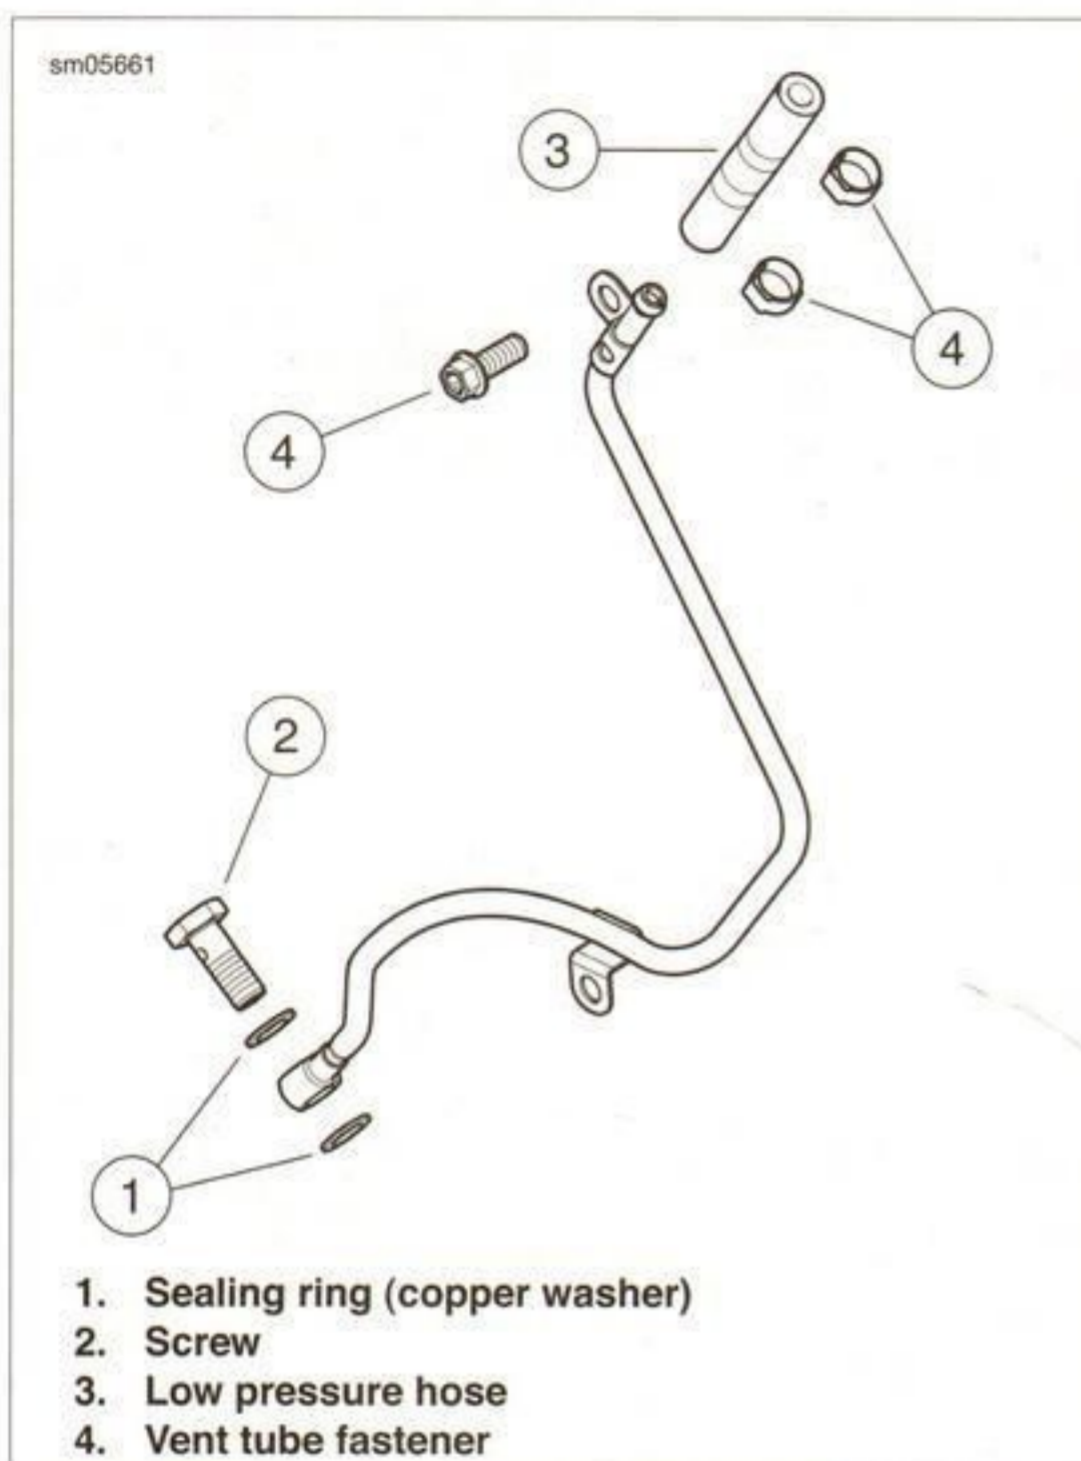

Figure 3-111. Clutch Cover Vent Tube
1. See Figure 3-111. If necessary replace the low pressure hose (3) and clamps (4) between the vent tube and the fitting on the head.
2. Install the vent tube banjo bolt (2) and two **new** copper washers (1).
4. Install the vent tube fastener (4) into the cylinder head.